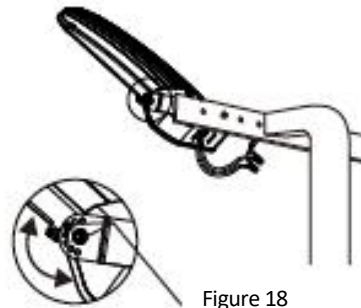

Figure 18
5. To adjust the angle of the fixture, loosen to adjust the angle and tighten when desired angle is achieved (Figure 18).